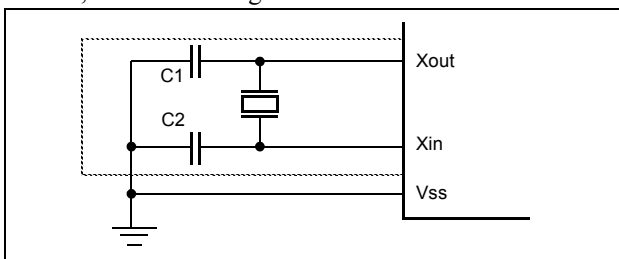

Figure 10-2 Oscillator Connections
XIN and XOUT are the input and output, respectively, a inverting amplifier which can be set for use as an on-chip oscillator, as shown in Figure 10-2 .
**Note:** When using a system clock oscillator, carry out wiring in the broken line area in Figure 10-2 to prevent any effects from wiring capacities.